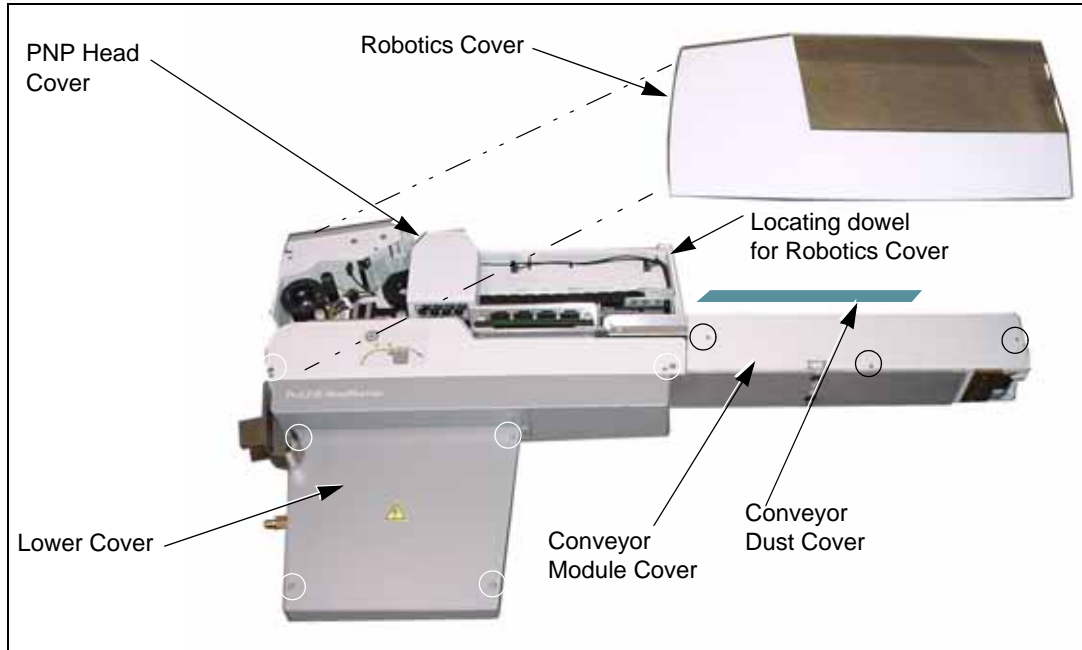

Figure S-2—Cover Screw Locations Indicated by Circles
For screw locations see Figure S-2.
4. Remove the screws that hold the Lower Cover to the chassis. For screw locations see Figure S-2.
3. Remove the screws that hold the Conveyor Module Cover to the chassis. See Figure S-2. The number of screws varies depending on model.